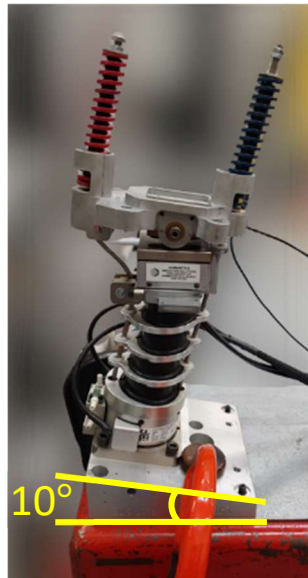

Figure 4-46. Adjust and stabilize the neck mounting plate so an inclinometer reads $10.0 \pm 0.2^\circ$ about the Y-axis and $0 \pm 0.5^\circ$ about the X-axis
- 4.3.18 Adjust and stabilize the neck mounting plate so an inclinometer reads $10.0 \pm 0.2^\circ$ about the Y-axis and $0 \pm 0.5^\circ$ about the X-axis (Figure 4-46).